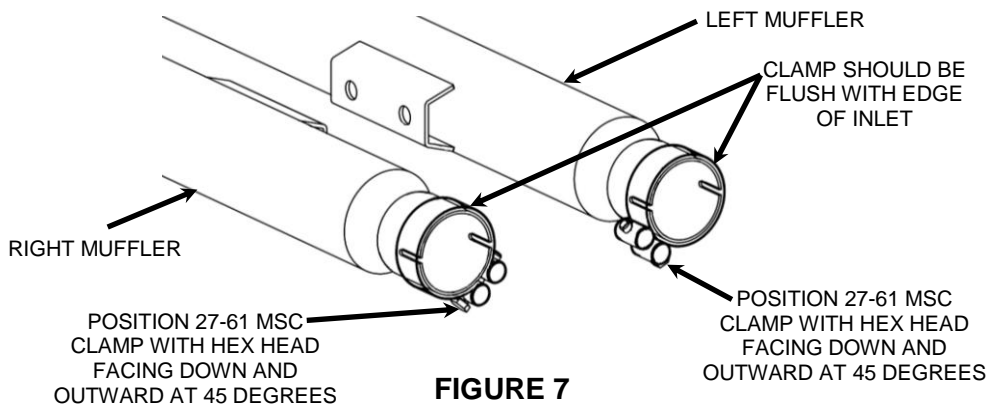

FIGURE 7
22. Position the supplied #27-61 MSC muffler clamp with hex head facing down and outward at a 45 degree angle as shown in **FIGURE 7** and slide onto the left and right rear muffler inlet tubes. (NOTE: The clamps should be flush with the end of the muffler inlets when tightened. See **FIGURE 7**. If the clamps are slid past the slots on the muffler inlets the clamps will not tighten properly).
25. Make sure the left and right headpipes and mufflers are straight and parallel with the ground. Also make sure the left front and left rear headpipes have the proper clearance between the rear cylinder fins and the rear frame. From the rear of the motorcycle make sure the muffler outlets are flush and level with each other. When all the pipes are aligned tighten in the following order; headpipe flanges to the cylinders (slowly tightening opposing nuts), mufflers to the exhaust mount bracket, left rear headpipe clamp, and finally the muffler clamps. (NOTE: The muffler clamps should be flush with the end of the muffler inlet when tightened. See **FIGURE 7**. If the muffler clamps are slid past the slots on the muffler inlets the clamps will not tighten properly).
28. Install the right headpipe heatshield first followed by the right muffler heatshield second. See **FIGURE 8**. Slide the rear portion of the muffler heatshield forward over the muffler while gently pushing the front of the muffler heatshield underneath the rear of the right headpipe heatshield. (NOTE: Spread the hose clamps apart slightly to make it easier to slide them over the muffler and headpipes.) Make sure the muffler clamp does not interfere with the heatshield and is aligned as shown in **FIGURE 7**.